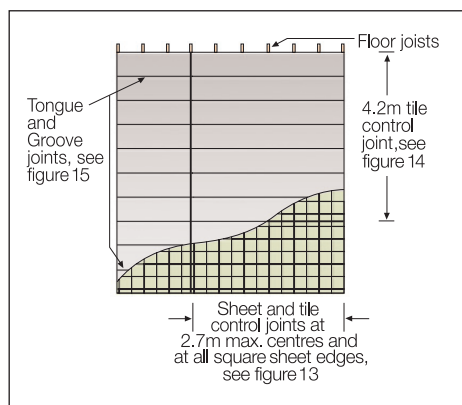

FIGURE 4 SQUARED SHEET LAYOUT
When tiling direct to sheets with no mortar bed, the 5mm butt joints between all adjacent sheets act as control joints. These control joints must be carried up through the tiled finish, see Figure 4.
- All sheet control joints must carry up through the tiles, see Figure 4.
- If additional tile control joints are required, these should coincide with sheet edges. See Figures 4 and 5. Refer to relevant tile codes for recommended tile control joint spacing.